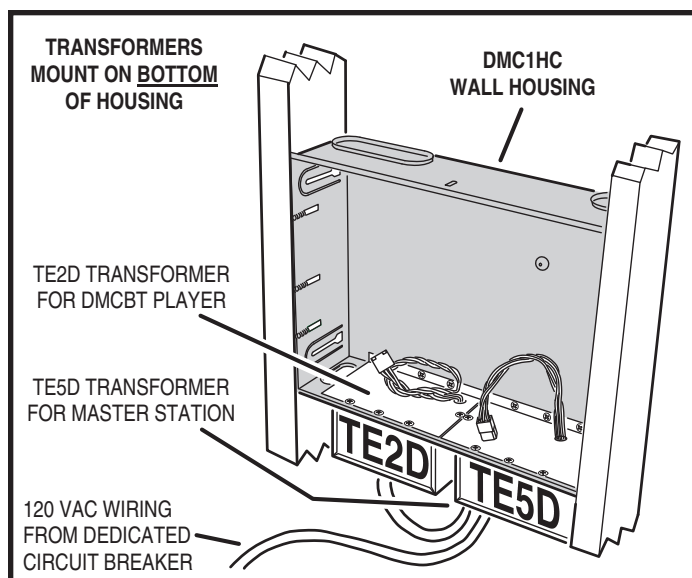

Figure 6. Completed Transformer Installation
6. Tuck the cables into the transformer enclosure(s) followed by the transformer on its mounting plate. Secure the transformer(s) and enclosure(s) to the wall housing with the screws supplied (see Figure 6).